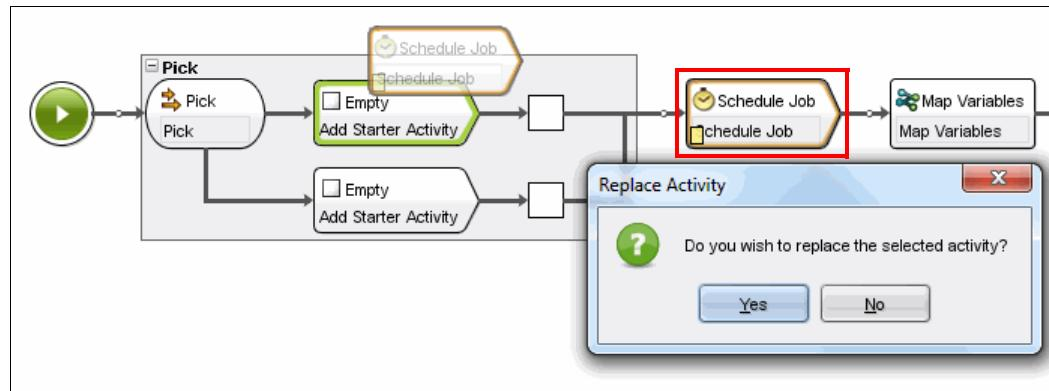

Figure 11-20 Moving the Schedule Job activity into the Pick group
4. Drag the Schedule Job activity in the orchestration to the uppermost Add Starter Activity of the Pick group, as shown in Figure 11-20. When the prompt displays, click Yes in the Replace Activity dialog.